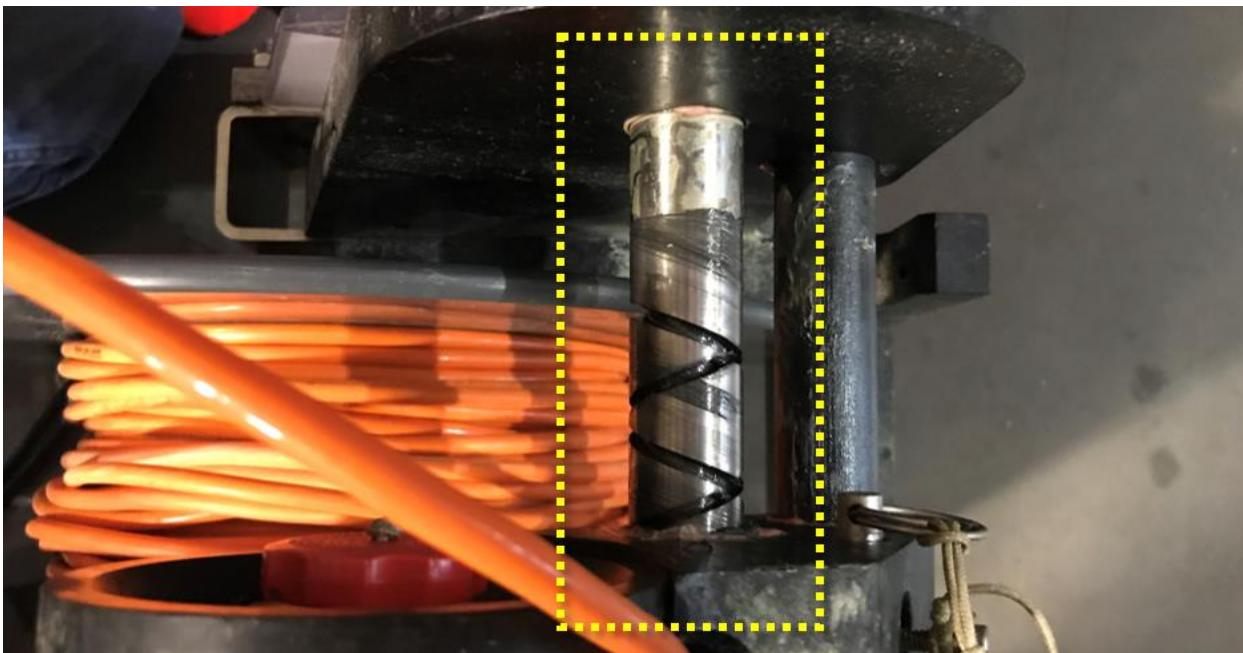

Figure 26. Properly Greased Winch Axe (Axe Rod)
2. The winch axle (axle rod) requires lubrication with Krytox 205 annually. Figure 26 is an example of a properly greased axle. Maintaining lubrication on this component ensures the equipment lifespan.